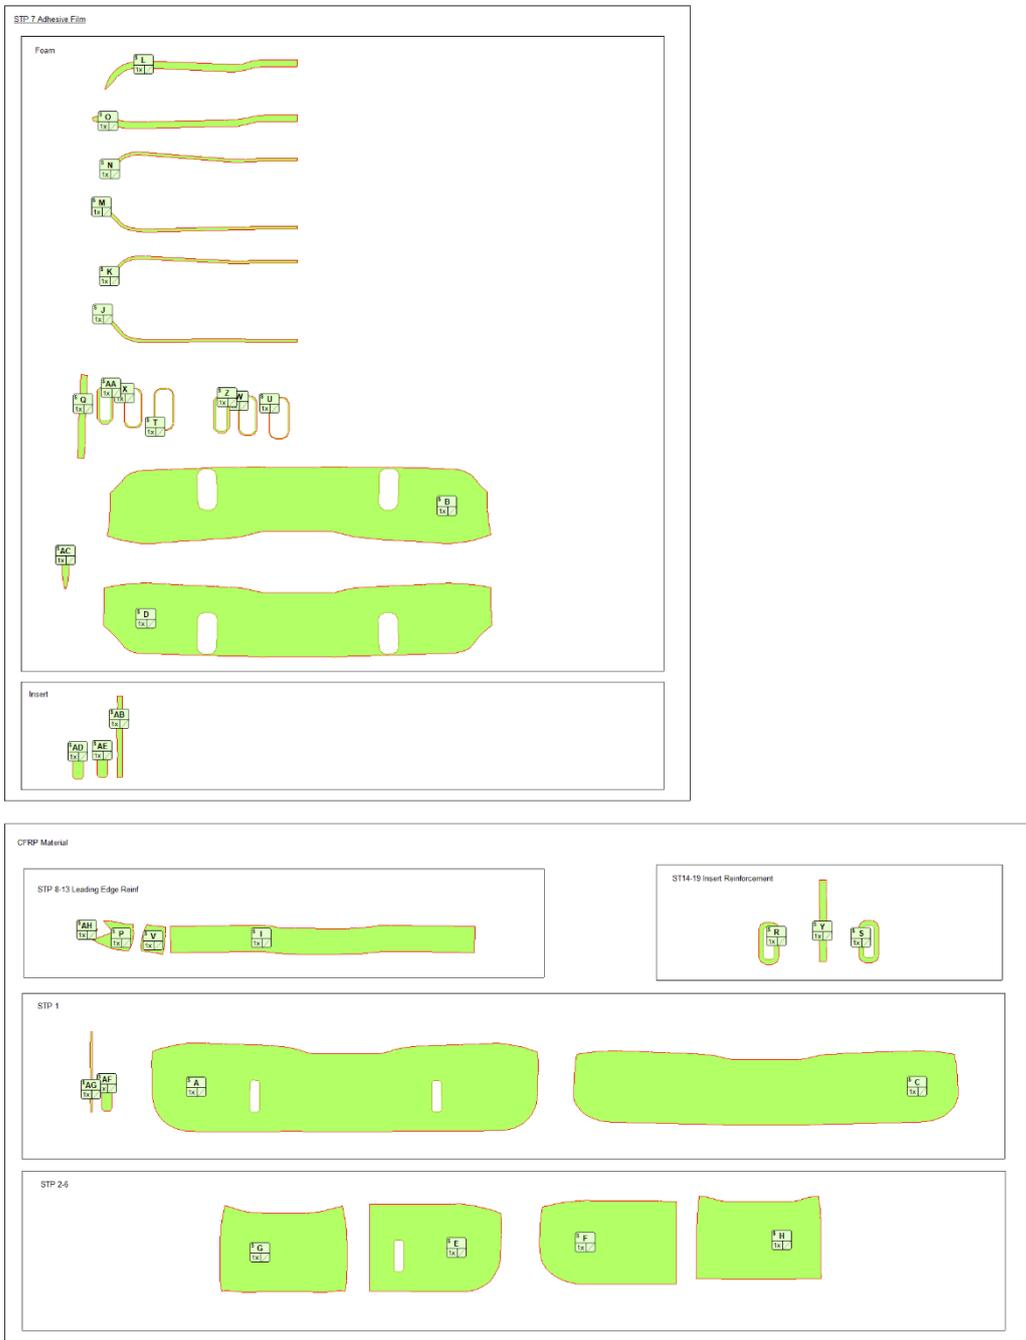

Figure 255
47. **Optional:** In this step adds the additional information to clearly show which cuts are needed for which steps and what material they are made of. Therefor draw rectangular geometries  and text  objects on design layer 0 according to Figure 255.